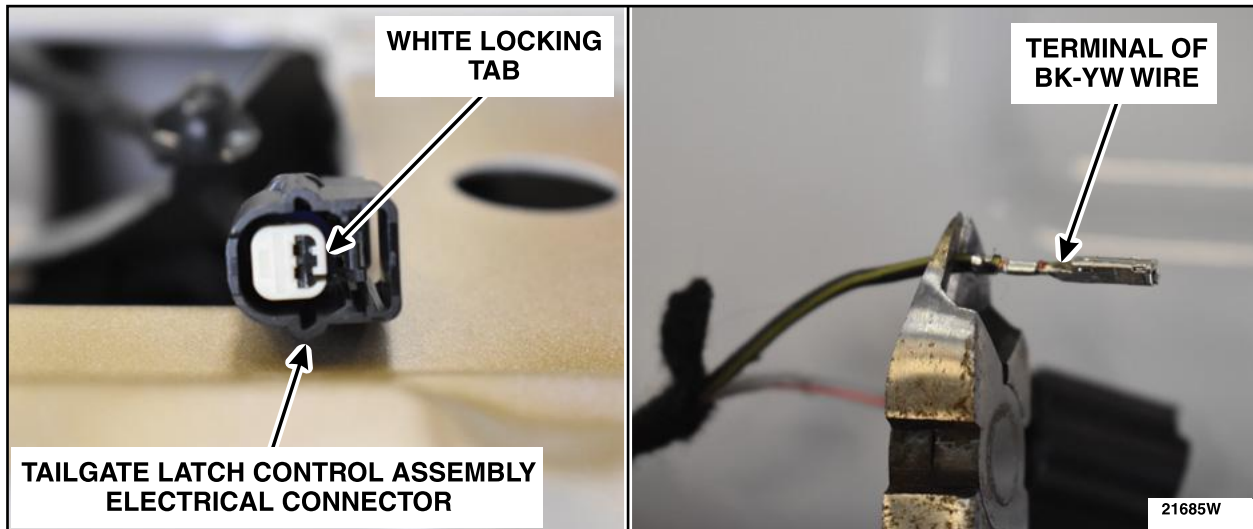

FIGURE 23
27. Remove the white locking tab and the Black-Yellow (BK-YW) wire from the tailgate latch control assembly connector. Cut off the terminal of the BK-YW wire. See Figure 23.